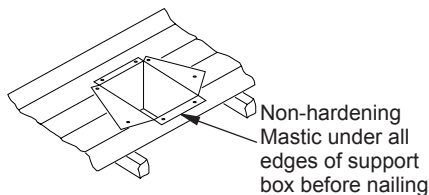

Figure 25 - Installed Cathedral Ceiling Support Box
4. Using tin snips, cut the support box from the top corners down to the roofline and fold the resulting flaps over the roof sheathing (see Figure 25). Apply a bead of non-hardening mastic around the top edges of the support box to make a seal between the box and the roof. Nail in place with roofing nails. Remove any combustible material that might be inside of the support box.